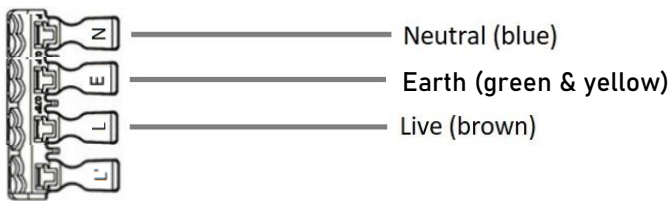

Fig. 3
- Connect the luminaire to the mains supply ensuring the correct polarity is observed (see Fig. 3): L – Live (brown), E – Earth (green/yellow), N – Neutral (blue). The earth terminal is non-functional and only provided for convenience. Two cables can be inserted into the push-fit terminal block in order to achieve loop-in/loop-out